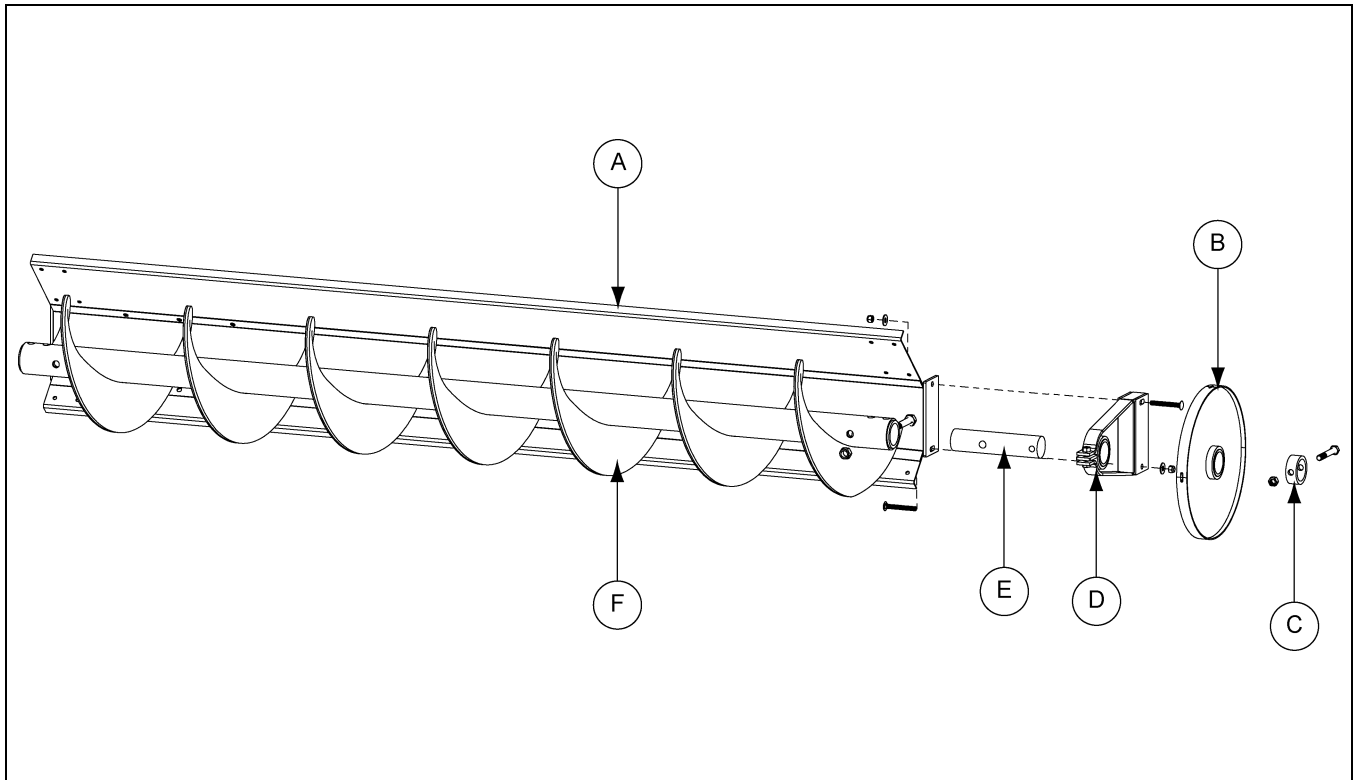

Figure 4L End Wheel Assembly
1. Connect the stub shaft (E) into the sweep flight (F) using a 5/8"-11 x 4" hex head cap screw and 5/8" stover nut.
2. Install the bearing stand assembly (D) onto the stub shaft (E) and bolt it to the sweep shield using two (2) 3/8" x 3" carriage bolts, flat washers and nylock nuts.
3. Install the end wheel (B) and collar (C) onto the end of the stub shaft (E). Pin the collar in place with a 1/2" x 3-1/2" hex head cap screw and prevailing torque lock nut. *(See Figure 4L.)*